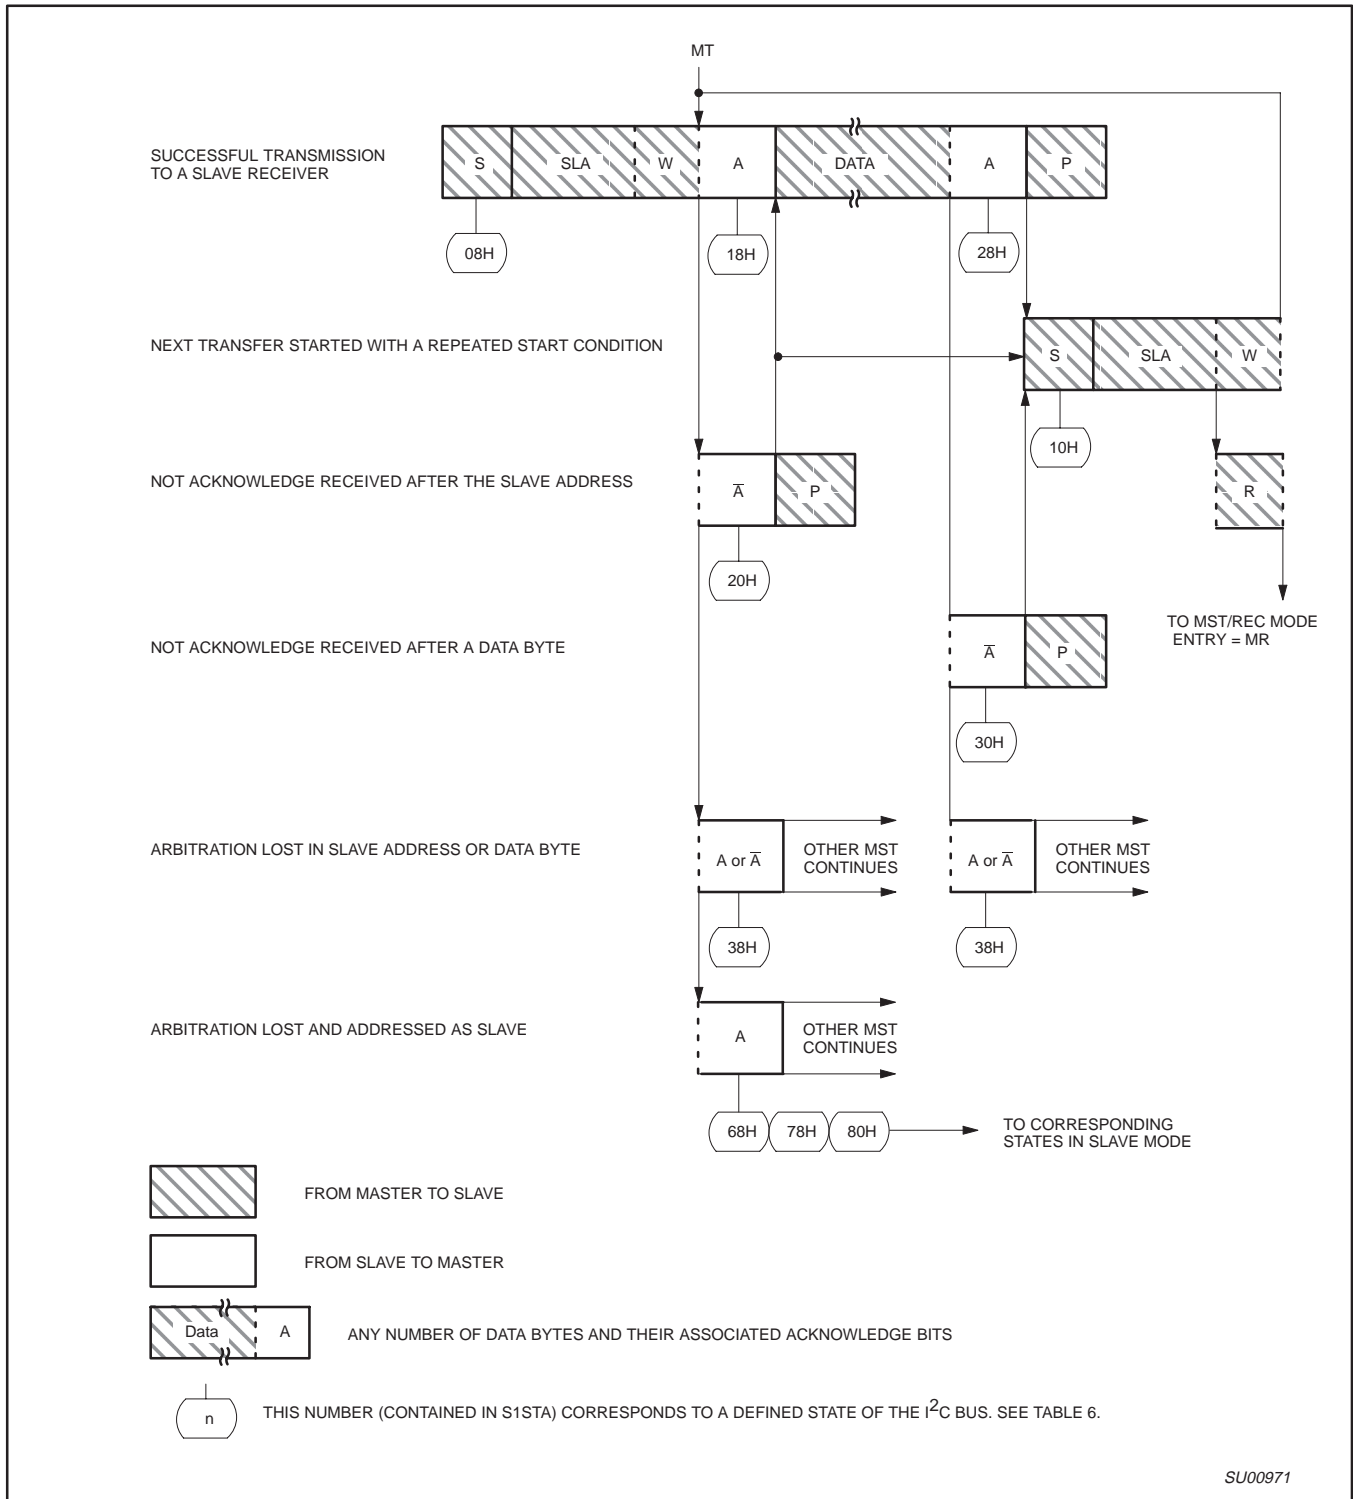

Figure 39. Format and States in the Master Transmitter Mode
Data transfers in each mode of operation are shown in Figures 39–42. These figures contain the following abbreviations:
**Master Transmitter Mode:** In the master transmitter mode, a number of data bytes are transmitted to a slave receiver (see Figure 39). Before the master transmitter mode can be entered, S1CON must be initialized as follows: